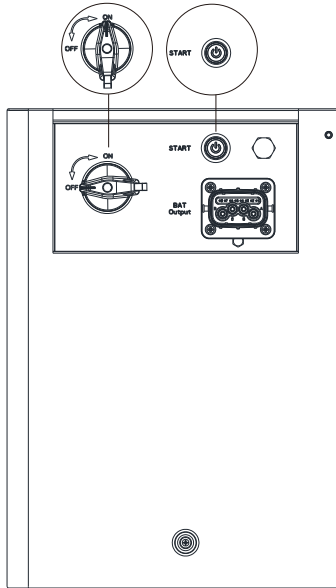

Figure 5.2 Power on the APX M-53 system
Step 1: Turn on the DC switch of the Master Module(Figure 5.2).
Step 4: Press and hold the "START" button on the Master Module for more than 5 seconds (Figure 5.2).